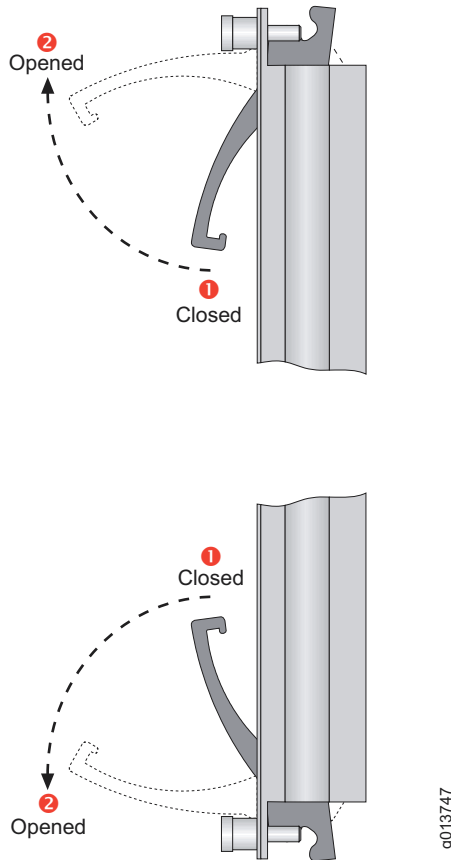

Figure 5-6 Ejectors in the closed position
- 4** Pull the ejector handles located at the top and bottom of the module so that they are in position 2, as shown in Figure 5-6.